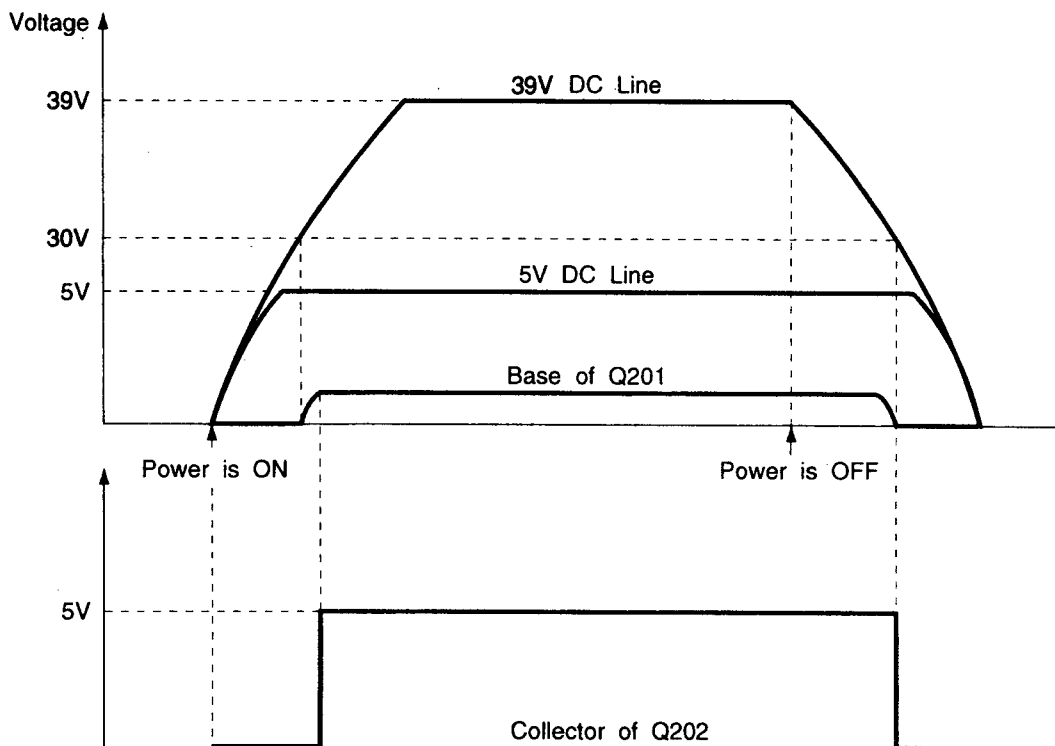

Fig. 1-2
- Fig.1-2 shows the waveforms in each circuit when power is ON and OFF.